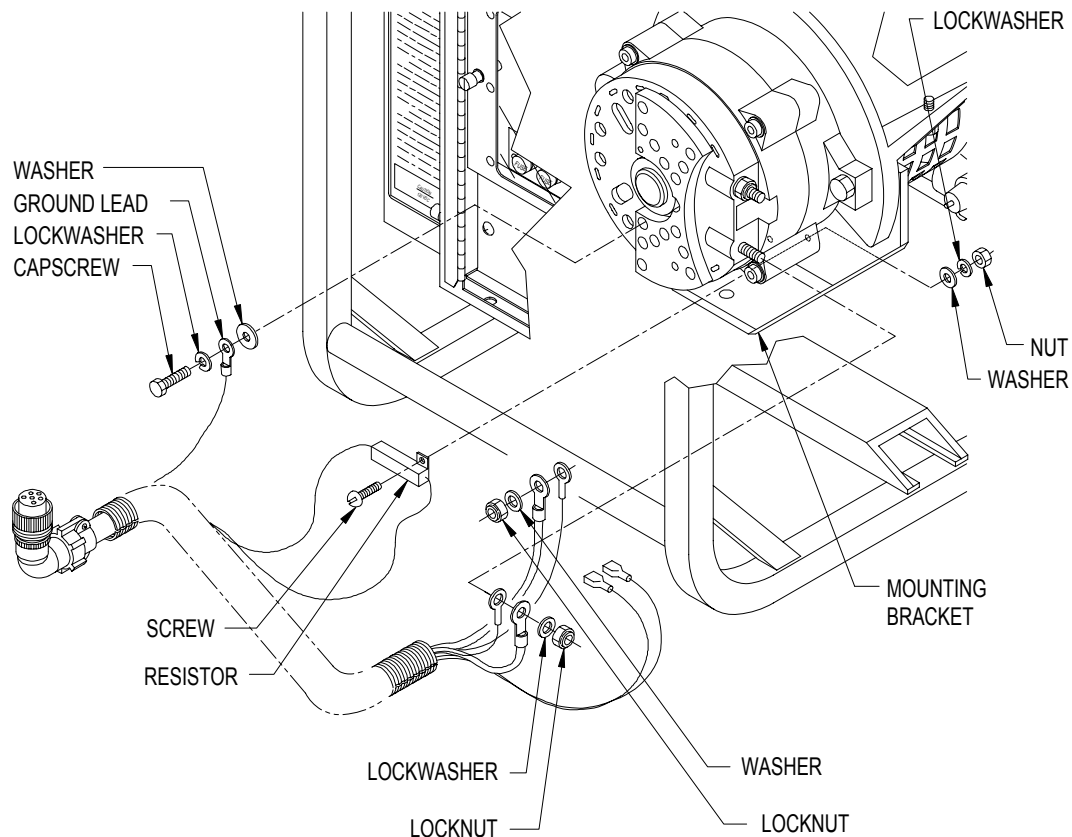

Figure 4-61. Alternator Wiring Harness
- (1) Shut down generator set.
- (2) Disconnect alternator wiring harness plug (P1) (Figure 4-61) from receptacle on bottom of control panel.
- (3) Set multimeter for ohms and check for continuity between P1 socket A and alternator (G2) pin +, P1 socket B and alternator (G2) pin FLD, P1 socket D and alternator (G2) pin STA, P1 socket C and alternator (G2) pin -.
- (4) If necessary, repair wiring harness. Then connect plug to receptacle on bottom of control panel.
- (2) Disconnect alternator wiring harness plug (Figure 4-61) from receptacle on bottom of control panel.
- (3) Remove capscrews, screws, lockwashers, washers and nut securing wiring harness ground lead to alternator and wiring harness resistor to mounting bracket.
- (4) Tag and disconnect wiring harness leads at alternator at four places.
- (5) Cut cable ties as necessary and remove generator wiring harness.
- (1) Route alternator wiring harness (Figure 4-61) as removed. Use new cable ties to secure harness where required.
- (2) Connect alternator wiring harness as tagged. Remove tags.
- (3) Connect wiring harness ground lead to alternator and attach wiring harness resistor to mounting bracket with capscrews, screws, lockwashers, washers, and nut.
- (4) Connect alternator wiring harness plug to receptacle on bottom of control panel.